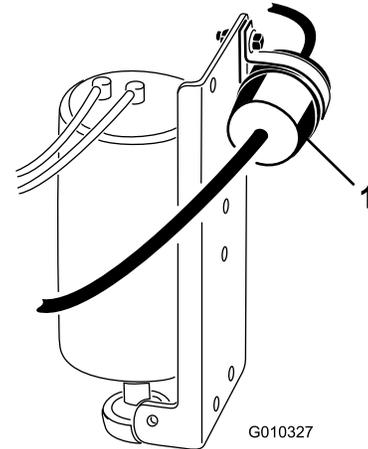

Figure 38
2. Place a clean container under the fuel filter (Figure 38).